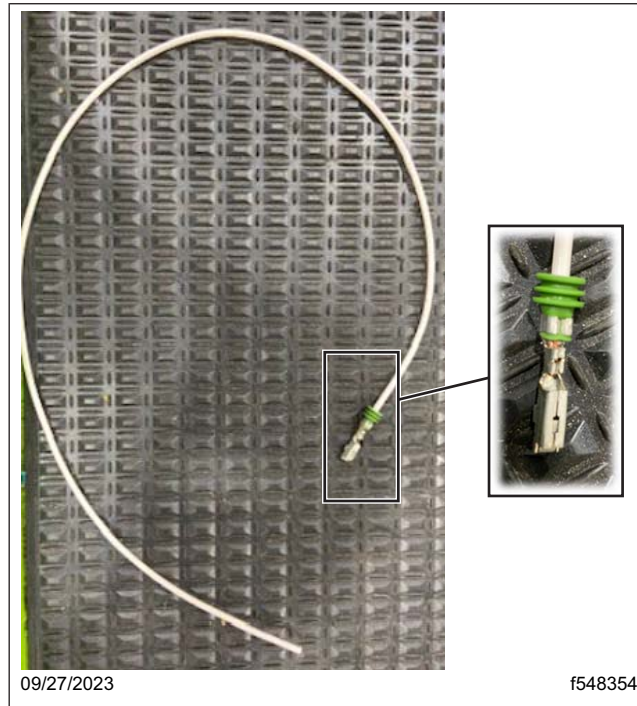

Fig. 70, 24-Inch Length of 16 Gauge Wire with the Terminal and Seal Crimped on One End
- 35.3 Cut a length of white 16-gauge wire approximately 24-inches long. On one end of this short wire, install a terminal (PAC 12110847 L) and seal (PAC 15324984 B). See Fig. 70.